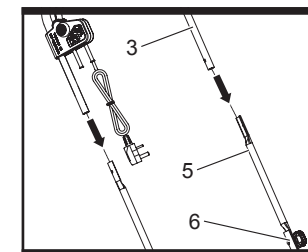

Fig. 4a
- d). Align the upper handle bar (3) with the middle handle bar (5) and secure them with one mounting set (4) on each side. (See Fig. 4a,4b).